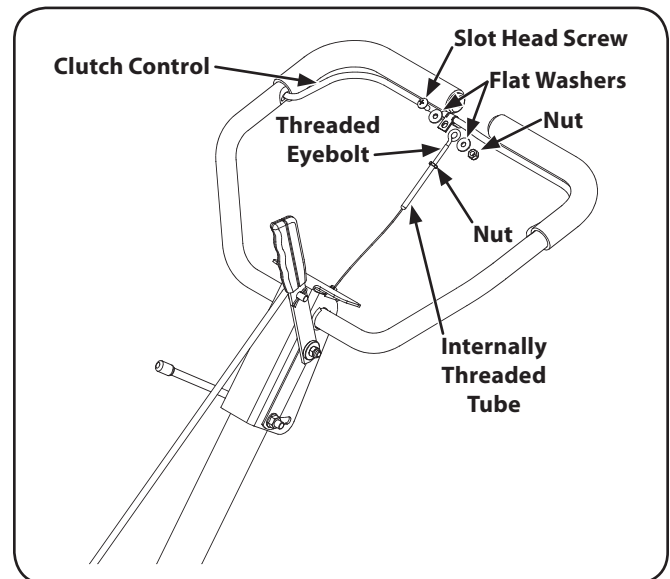

Figure 3-4
4. Remove the slot head screw, nut, and two flat washers from the clutch bail. See Fig. 3-4.
6. Thread the eyebolt and nut removed earlier into the internally threaded tube at the end of the cable. Thread engagement should be about $\frac{3}{4}$ ". Tighten the nut against the tube at the end of the cable. See Fig. 3-4.